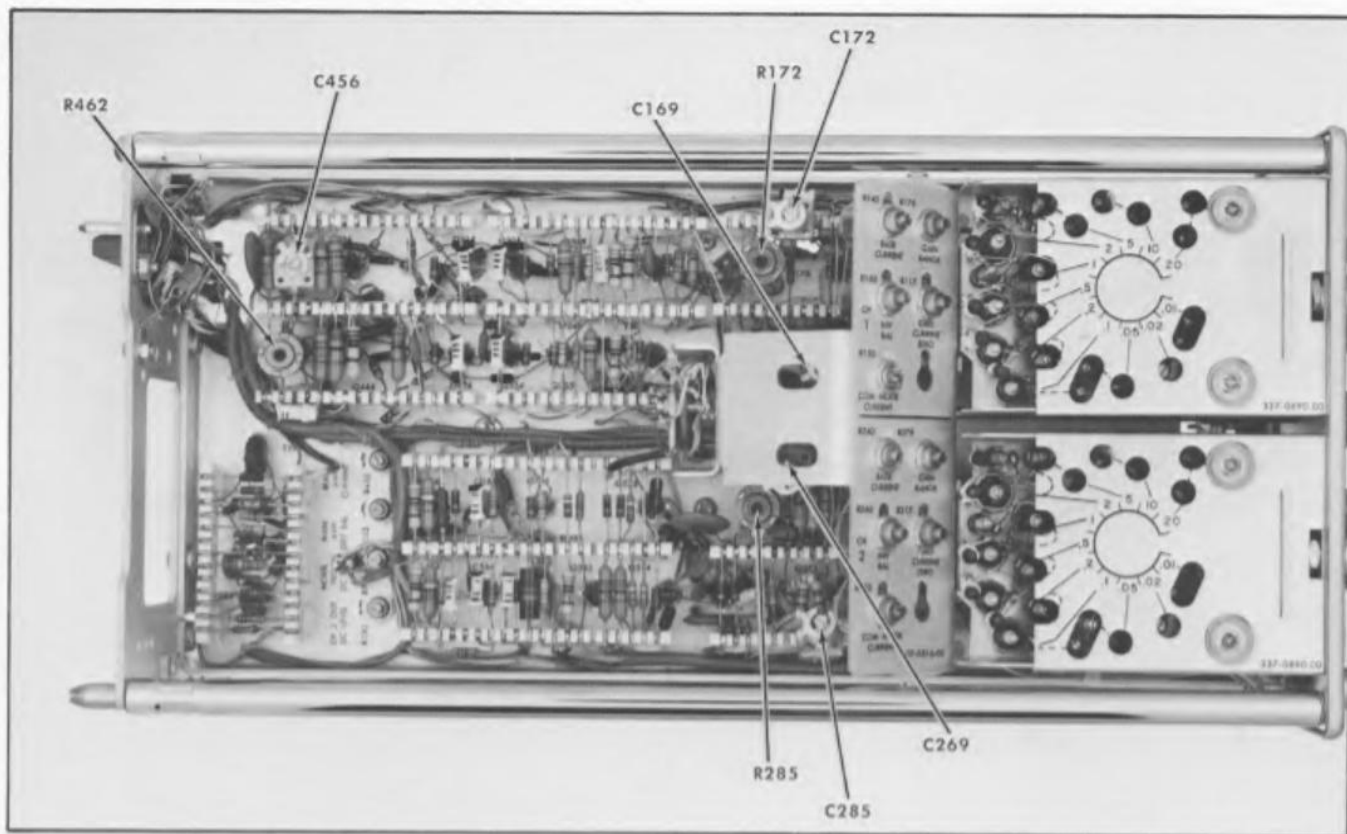
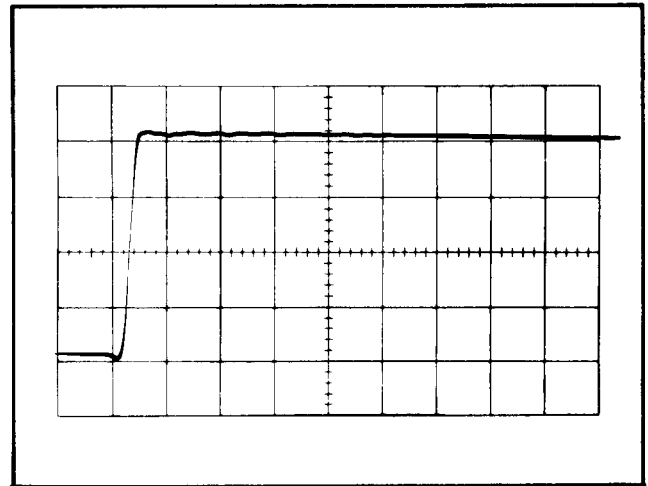

Fig. 6-12. Location of C169, C172, C269, C285, C456, R172, R285 and R462.
Fig. 6-13. Correctly compensated waveform.
g. ADJUST—C169, C172, C456, R172 and R462 (see Fig. 6-12) for less than 4% overshoot, rounding, tilt, or peak-to-peak ringing on the waveform; see Fig. 6-13.
m. ADJUST—C269, C285 and R285 (see Fig. 6-12) for less than 4% overshoot, rounding, tilt, or peak-to-peak ringing on the waveform; see Fig. 6-13. If necessary, C456 and R462 (output amplifier compensations) may be readjusted so channel 2 will make the 4% performance requirement.